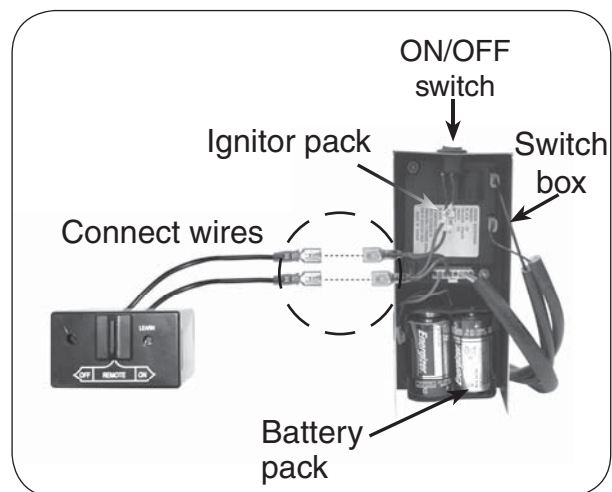

Fig. 9-1 Switch box detail
Two 1.5-volt (D-cell) alkaline batteries are supplied with the burner system. To install or replace batteries, remove any old batteries (if applicable) and install new batteries according to the diagram illustrated on the battery holder mounted inside the switch box (Fig. 9-1).
2. Connect the remote receiver wires to the switch box (see Fig 9-1).